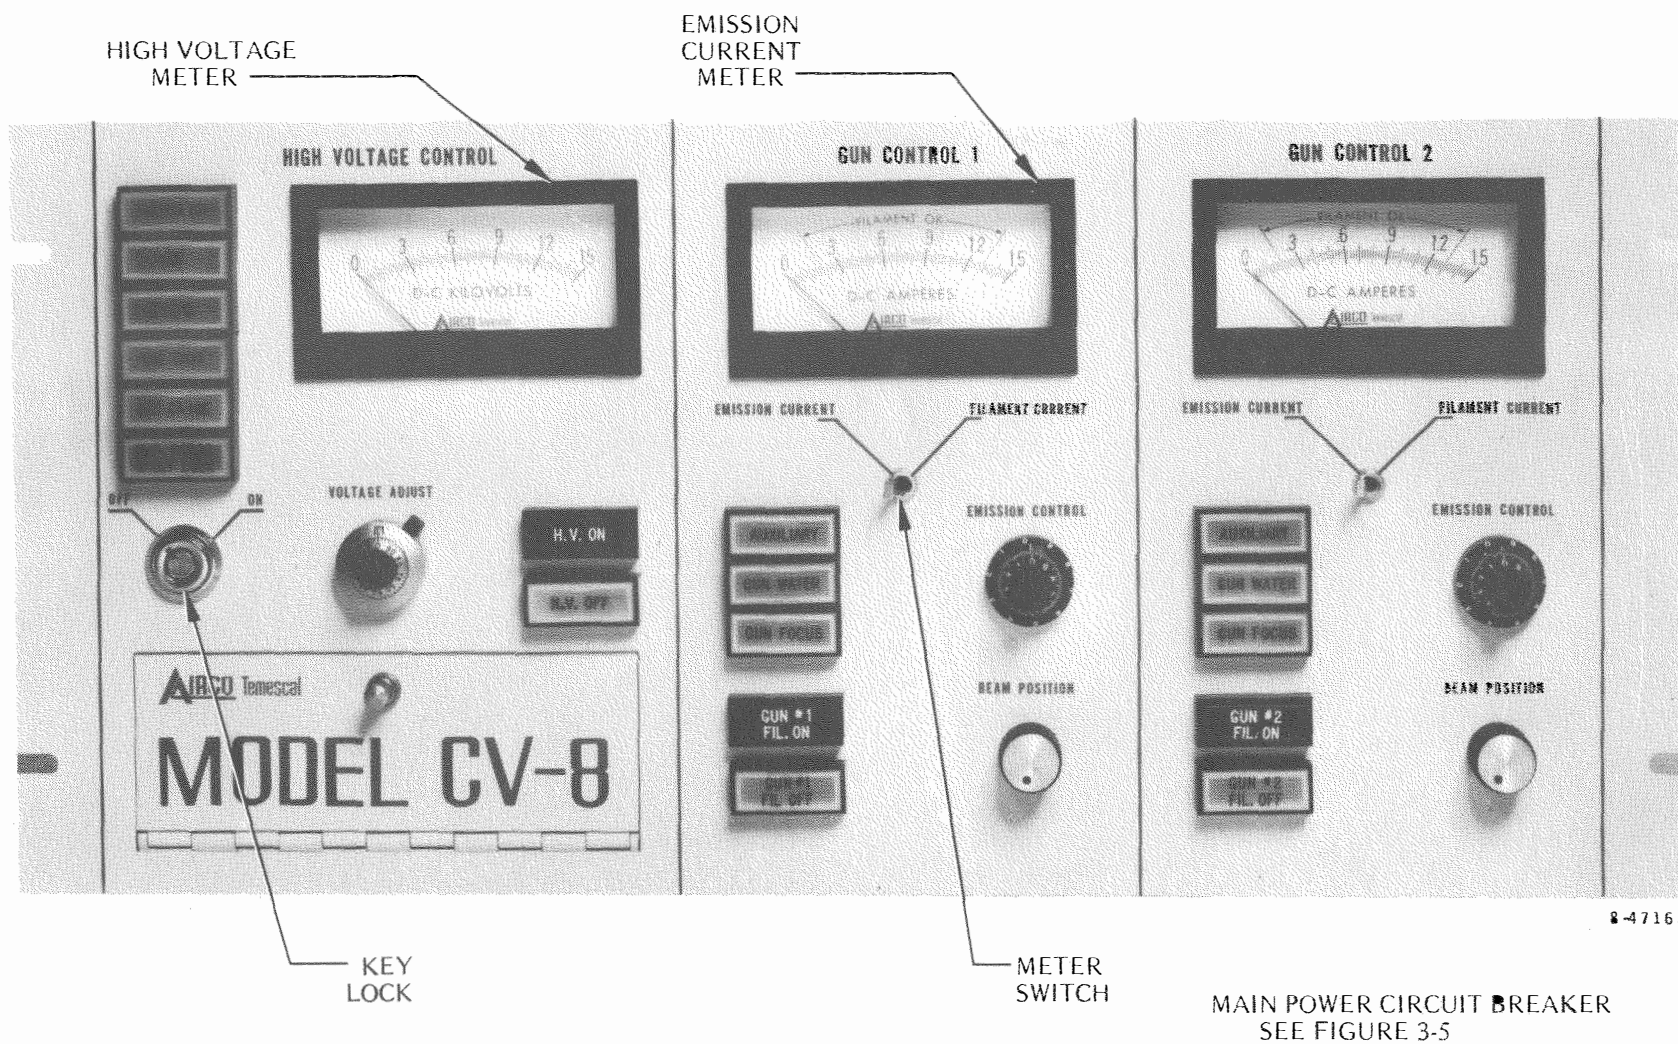

Figure 3-1. CV-8 A and B control module, front panel controls and indicators
See Figures 3-1 and 3-4
3.2.1 High Voltage Control Panel (Figure 3-1)
3.2.2 Gun Control Panel (Figure 3-1)
4.2 PRELIMINARY CONTROL SETTINGS (Figures 3-1, 3-4, 3-5, 3-2)
4.3 INITIAL TURN-ON (Figures 3-1 and 3-5)
4.3.1 External Interlock Check (Figure 3-1)
should be no emission current reading on the emission control meter. Position the meter switch to read FILAMENT CURRENT and adjust the SCR bias control, if necessary, so that the meter reads near the lower green line (figure 3-1).